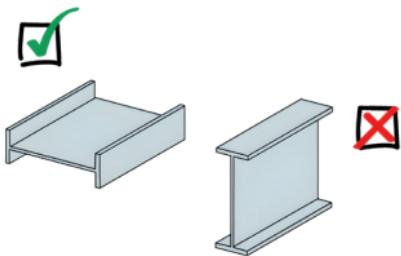

Figure 16. Store beams in horizontal position.
- Frames and beams should be stored in the horizontal position (Figure 16).